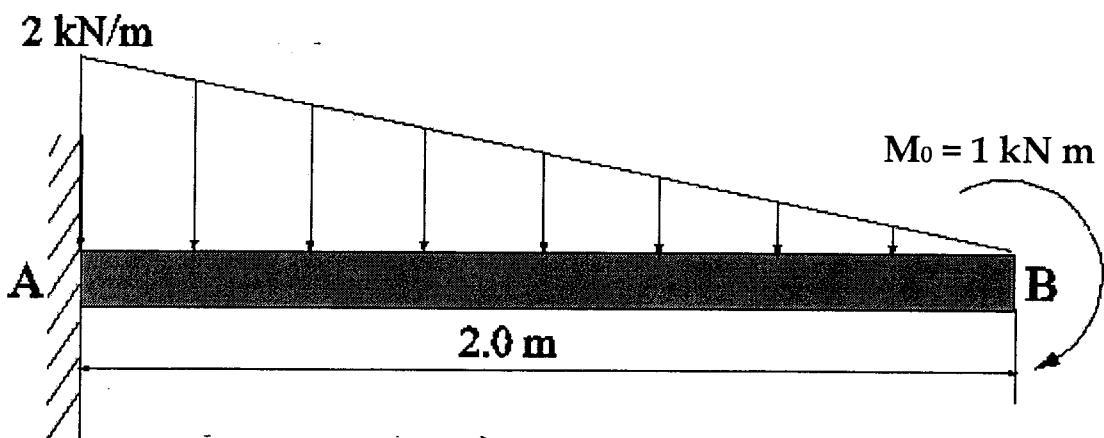

Figure Q2
- Q2. The cantilever beam is subjected to the distributed loading and moment M_0 shown in Figure Q2.